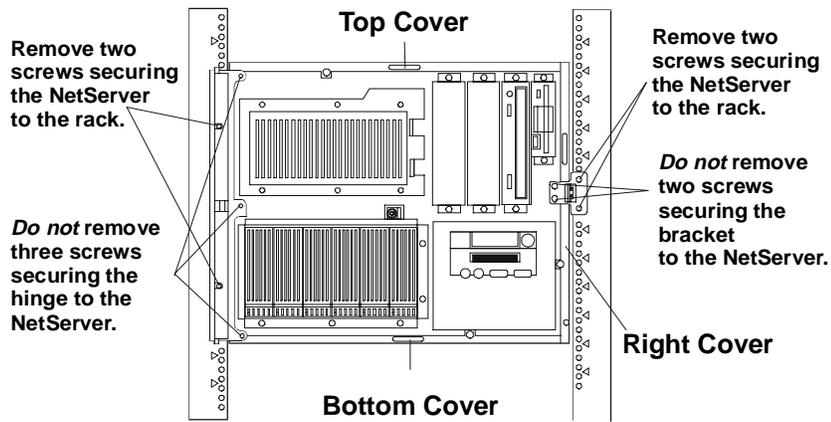

Figure 8-13. Bezel Hinge and Latch
1. Attach the bezel hinge to the HP NetServer with three screws through the right edge of the bezel hinge and into the left front of the HP NetServer (see Figure 8-13).